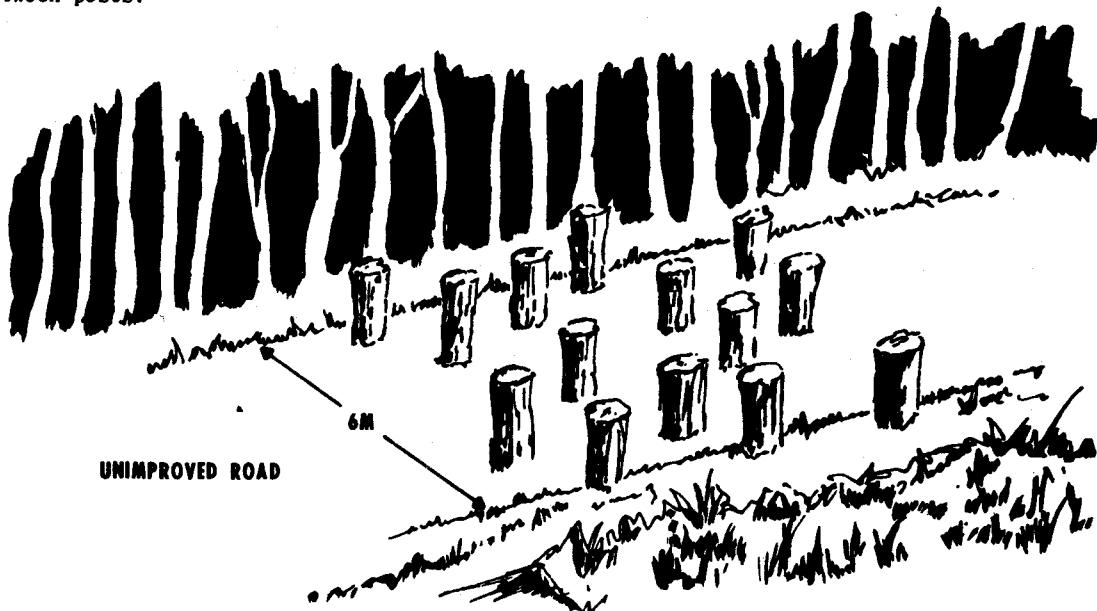

FIGURE 7 LOG POST ROAD BLOCK
b. Log Posts. These posts should be hardwood, with a minimum diameter of 40 cm (15 in.). Footings are used under log posts only where the soil has exceptionally poor load-bearing characteristics. Figure 7 depicts a log post obstacle.
(1) All posts are buried 1.5 meters (5 ft) in the ground either vertically or at a slight angle toward the enemy, and project above ground level between 75 and 120 cm (30 and 48 in.). The height should vary from post to post. The minimum acceptable number is not less than four rows. The spacing should be irregular, with at least 1 meter (3.3 ft) and not more than 2 meters (6.6 ft) between posts.